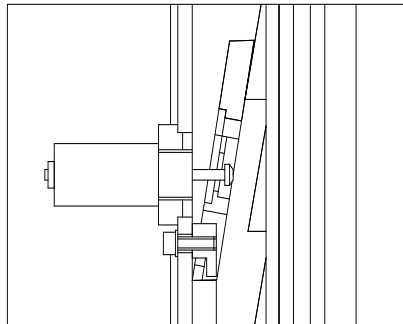

Fig.33
2. Install safety devices, which including solenoid, self-locking board and hook according to fig.33.